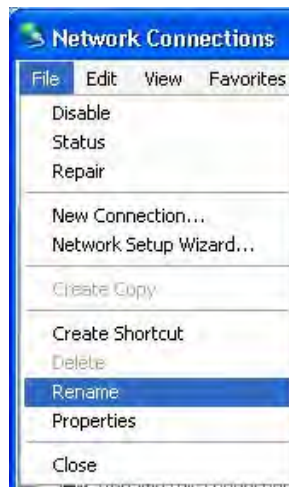

Figure 1-32. Network Connections Menu Bar
4. Select **File** and **Rename** on the menu bar (Figure 1-32).